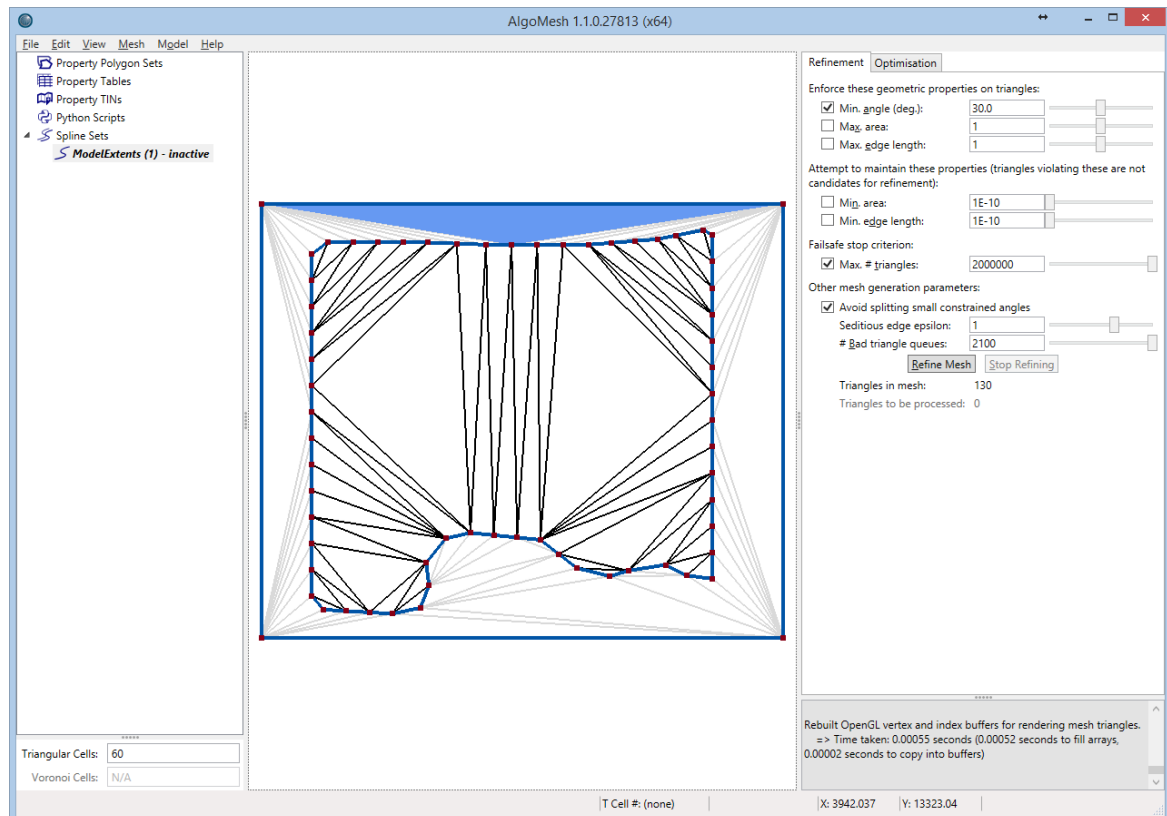

Figure 50: Pressing the minus ('-') key on the keyboard in Edit Mesh mode with a triangle selected turns all triangles in that enclosed area grey (inactive).
- **Press the minus ('-') key** on your keyboard. All of the triangles outside the model extents polygon should turn grey (inactive), as in Figure 50.